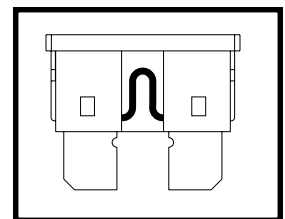

Figure 20. Working Fuse
2. Examine the fuse to be sure it is blown. **See figures 20 and 21.**